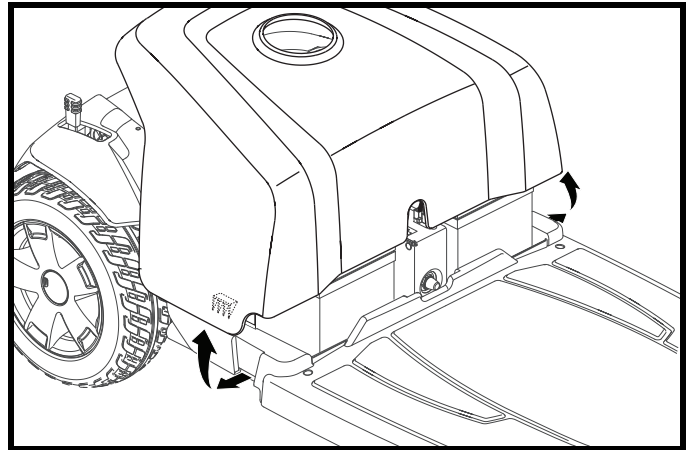

Figure 24. Battery Shroud Removal
2. Gently pull the battery shroud up and off of the scooter. **See figure 24.**